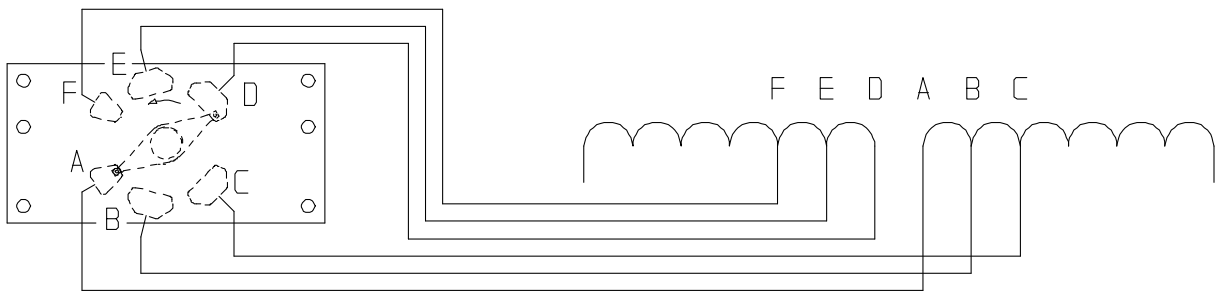

Figure 4: Schematic Diagram
- 1) See Figure 4: Schematic Diagram